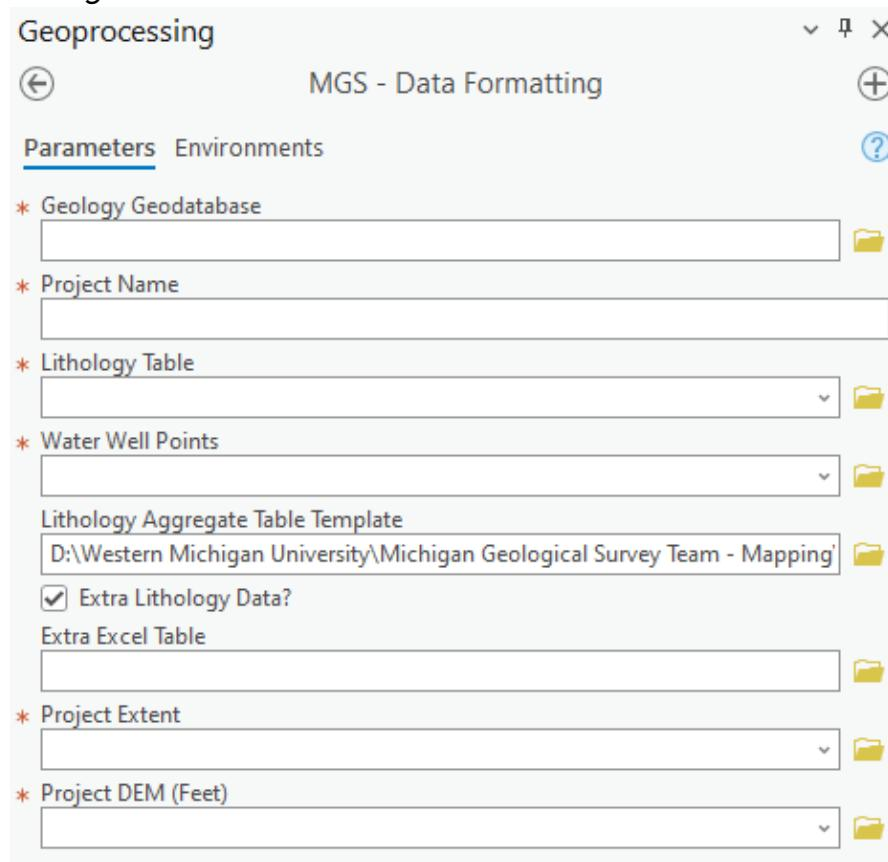

Figure 4: Screenshot of MGS - Data Formatting custom Python script in the ArcGIS Pro software.
16. Complete your layout. See completed cross-section in **Figure 4**.